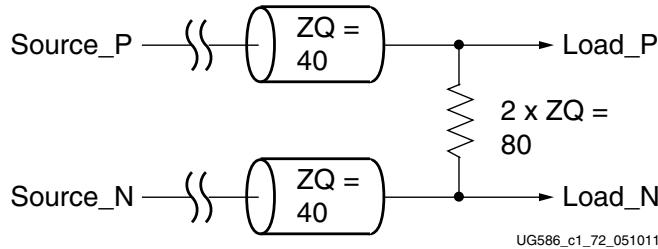

Figure 1-90: 80Ω Differential Termination
- Differential  $80\Omega$  traces and termination are required for operation at 1,333 Mb/s and higher.  $100\Omega$  is acceptable below 1,333 Mb/s. Figure 1-90 is for 1,333 Mb/s and higher.
- Address and control signals (A, BA, RAS\_N, CAS\_N, WE\_N, CS\_N, CKE, ODT) are to be terminated with the onboard DIMM termination. If DIMM termination does not exist or a component is being used, a  $40\Omega$  pull-up to  $V_{TT}$  at the far end of the line should be used (Figure 1-88). Except for the CK/CK\_N which requires a differential termination as shown in Figure 1-90.
- Differential signals should be terminated with the memory device internal termination or an  $80\Omega$  differential termination at the load (Figure 1-90). For bidirectional signals, termination is needed at both ends of the signal. ODT should be used on the memory side. For best performance in HP banks, DCI should be used. For best performance in HR banks, IN\_TERM (internal termination) should be used.